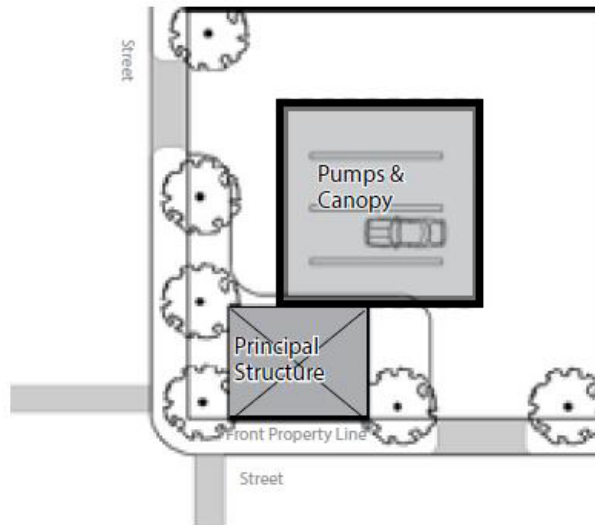

Figure 2.M-1. Relationship between the Principal Structure and the pump islands.
- (1) Canopies, including the roof, shall be no taller than twenty-eight feet.
- (2) Canopy roof structures shall match the roof structure of the Principal Structure on the Lot. Refer to permitted Cap Types per non- Residential Building Types in III.3.H through M.
- (3) Columns shall be located on the outer edges of the pump islands, outside of and partially screening the pumps.
- (4) Columns shall be a minimum of 18” in width in all directions and a maximum of fifteen (15) feet in height.
- (5) Column and canopy materials shall meet the requirements of III.3.A(5) Non-Residential Building Materials.
- e. Service Bays. Vehicular service bays, including garages and car wash bays, shall not be located on the Front Facade. This is illustrated in Figure 2.M-1